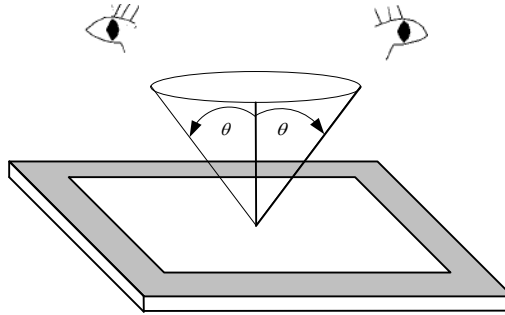

Fig. 11.1
- The viewing zone is defined with angle  $\theta$  shown in Fig. 11.1 The inspection should be performed within  $45^{\circ}$  when display is shut down. The inspection should be performed within  $5^{\circ}$  when display is power on.